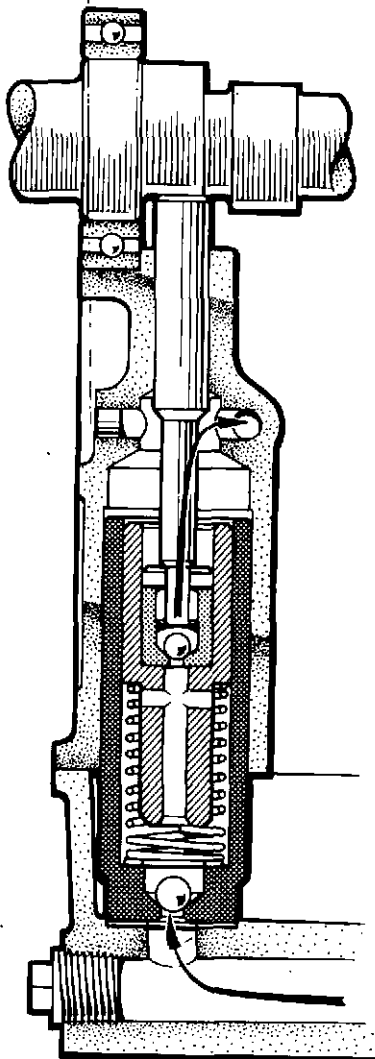

Fig. 13 Oil Pump (diagrammatic)
- (e) Dismantle oil pump making careful note of component positions (See Fig. 13).